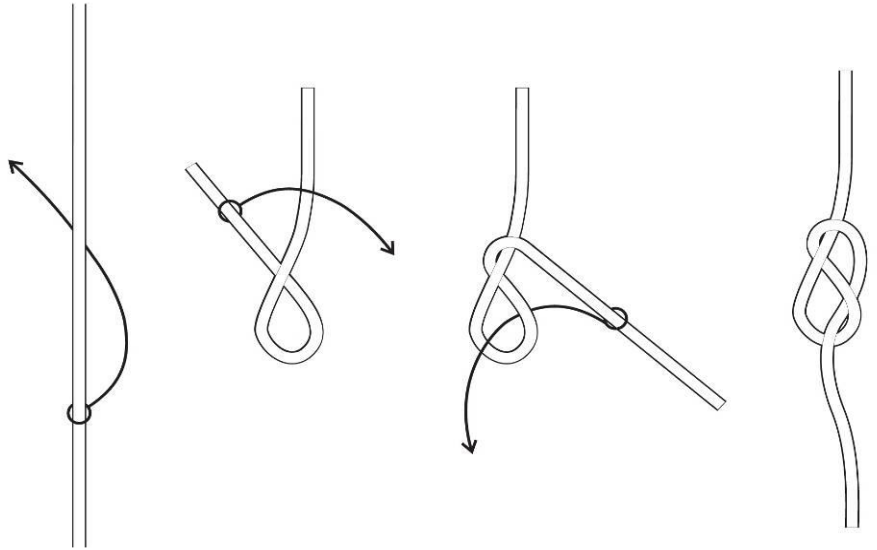

Figure-8 Stopper Knot
2. FIGURE-8 STOPPER KNOT:
3. FIGURE-8 ON-A-BIGHT:
Figure-8 on-a-bight